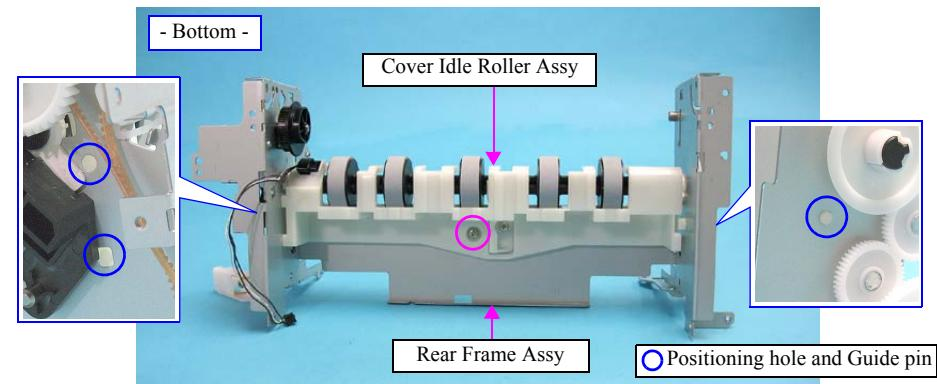

Figure 4-205. Removing the Cover Idle Roller Assy
- When installing the Cover Idle Roller Assy, insert its three guide pins into the holes of the Rear Frame Assy as shown in Figure.4-205.